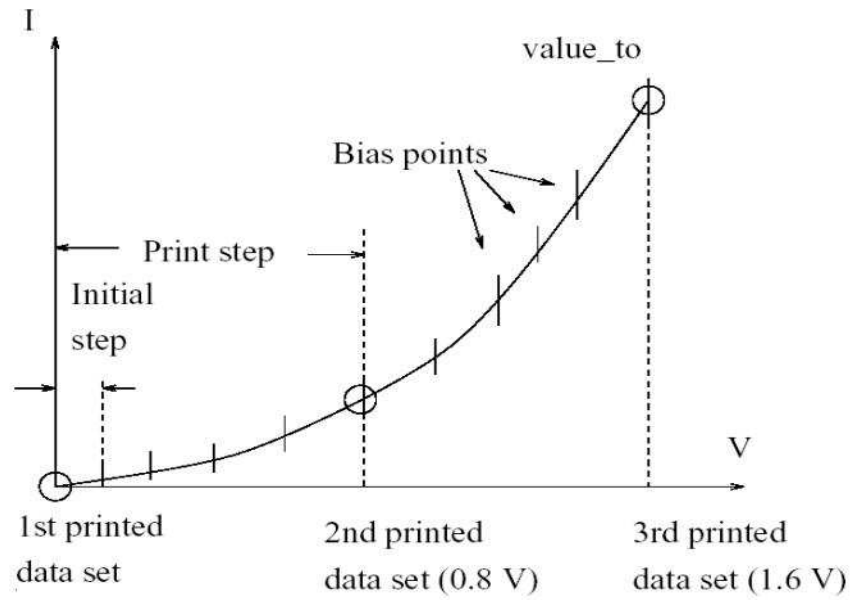

Figure 2.17: Schematics for the `scan` statement.
A variable (such as the voltage of a contact) is scanned (or biased) from an initial solution to a new solution under new bias. As shown in Figure 2.17, the progress of the scanned variable is usually not strictly controlled. It can vary from a minimum step to a maximum step. If the user wishes to have more solutions, a smaller maximum step may be chosen so that more solution data points may be obtained. For example, if a user wishes to see more points in the I-V curve, the maximum step may be set to the desirable interval and the program would be forced to take that step size.
- **value_to** is the final value of the first scanned variable to be reached. As an example, one may want to ramp up the voltage from zero volt (equilibrium) to 1.6 volts (see Fig. 2.17). There is no default for this parameter and it must be defined for each scan command. Please note that the initial value of a scanned variable is not explicitly defined in the present scan command because the program gets it from a previous **scan** command.
- **print_step** is the interval of the first scanned variable **var** at which full structural data are to be printed to the hard disk. Since there may be many bias points for one **scan** statement, it is important to choose this interval so that the proper amount of structural data is printed without taking up too much hard disk space. Please see Fig. 2.17) for the relationship between bias points and **print_step=0.8**. Each printed data set includes all the structural data at the present bias and all the bias data (i.e. I-V and L-I data) between the previous printed data set and the present one. For example the second data set